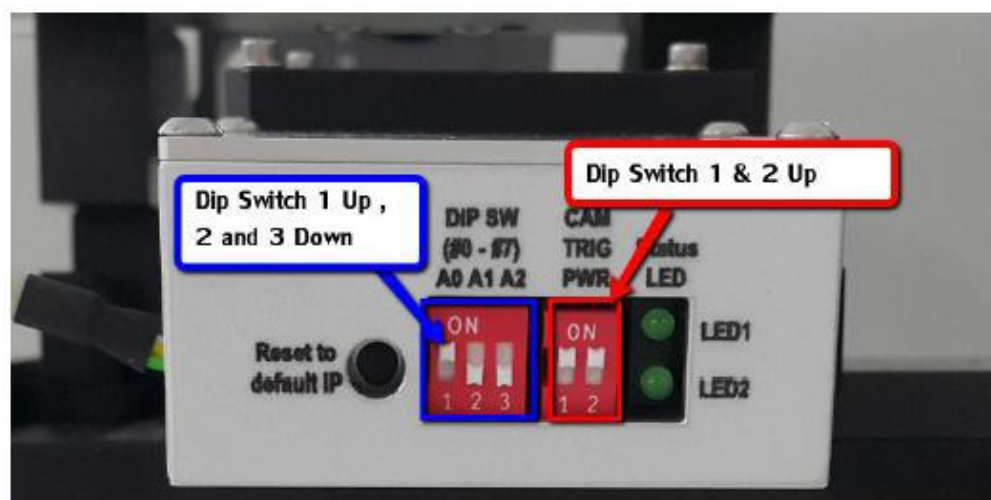

Figure 19 PSP 2 Rear Projector DIP Switch DIP Switch Setting
- Counter check the Rear Projector DIP Switch Setting is adjusted as below Figure 19.